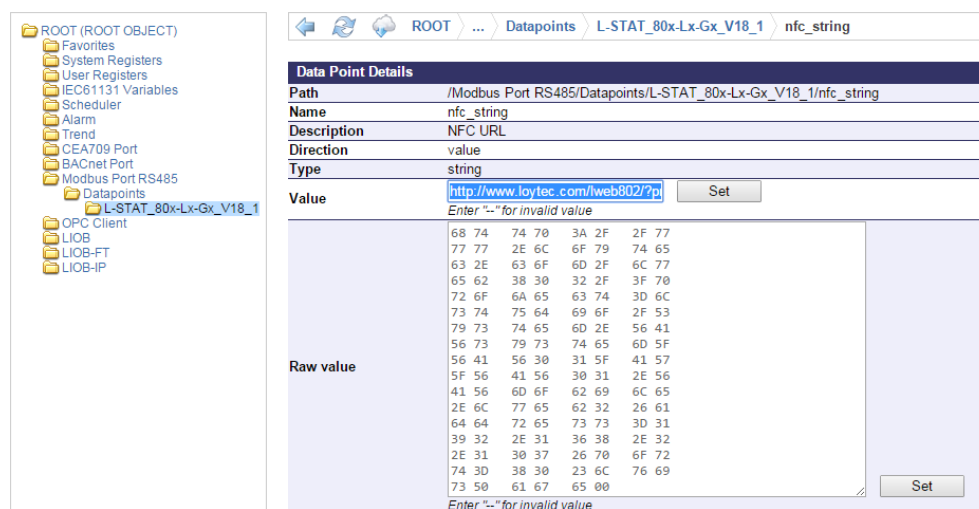

Figure 12: L-STAT NFC String
5. Open the **nfc\_string** datapoint in the web interface of your device and paste the L-WEB project URL at the **Value** field as shown in Figure 12.